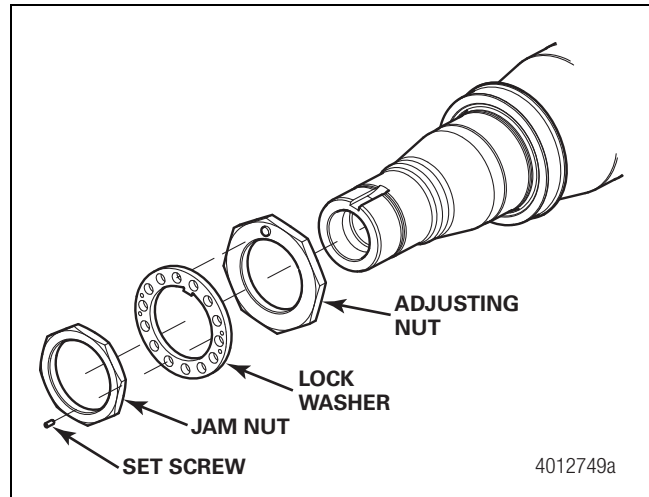

Figure 4.4
3. Inspect the wheel-end retention hardware including nuts, washers and set screws. Replace them if any of this equipment is worn or damaged. Figure 4.4.